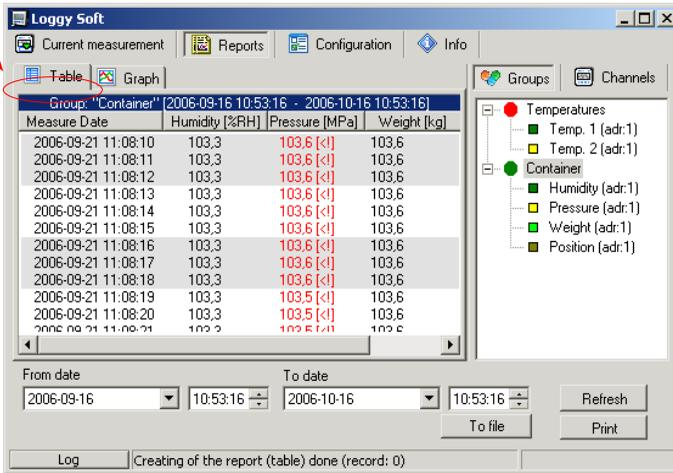

Fig. 3.3. Reports - menu
The **Table** tab (Fig. 3.3) is used for printing information concerning recorded measurements (e.g. temperature, humidity) in the form of a table for one of the groups or a particular measurement channel selected by the user (for more information on groups see 3.3.2 section, at page 87). This tab also enables the export of data to text format files. The exported file is formatted in a way allowing the transfer of data to a calculation sheet.
- click appropriate tab **Groups** or **Channels** (Fig. 3.3),